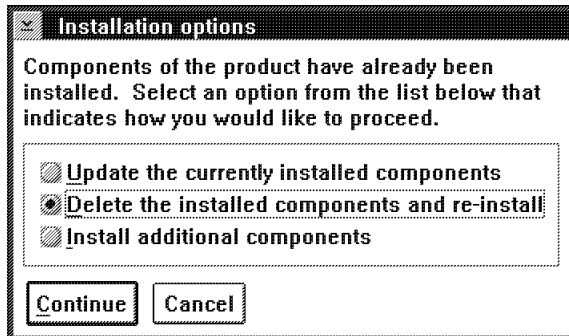

Figure 8. Installation Options Window
4. Read the information in the window, and then click on the **Continue** push button. You see the Installation options window shown in Figure 8 on page 17.